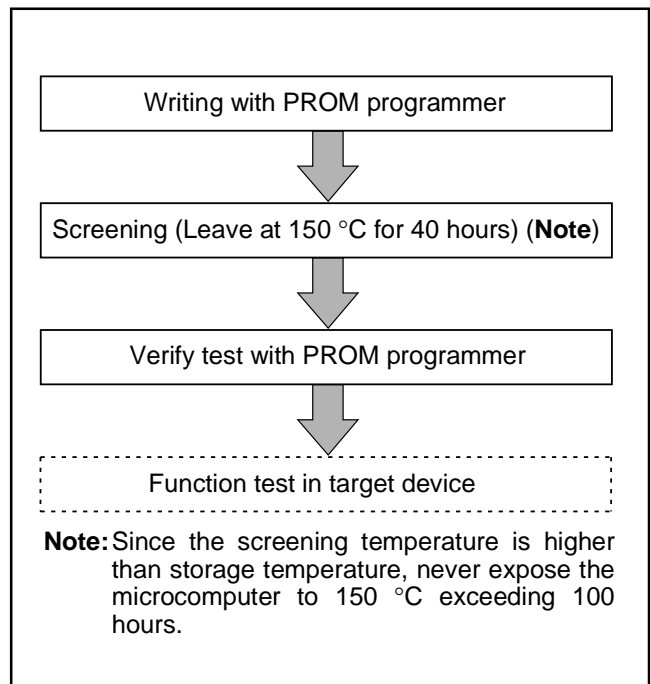

Fig. 53 Flow of writing and test of the product shipped in blank
(2) Notes on handling
- ① A high-voltage is used for writing. Take care that overvoltage is not applied. Take care especially at turning on the power.
- ② For the One Time PROM version shipped in blank, Renesas corp. does not perform PROM writing test and screening in the assembly process and following processes. In order to improve reliability after writing, performing writing and test according to the flow shown in Figure 53 before using is recommended (Products shipped in blank: PROM contents is not written in factory when shipped).